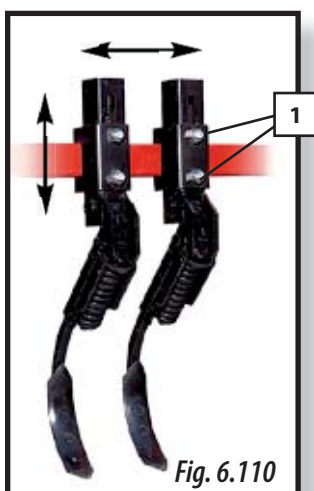

Fig. 6.110
- 1.** Loosen the fixing nuts (1, Fig. 6.110).
- 3.** Tighten the nuts to fix the position of the track eraser (1, Fig. 6.110).
ADJUST THE TRACK ERASERS HORIZONTALLY SO THAT THEY COINCIDE WITH THE TRACTOR'S WHEELS. ADJUST THE TRACK ERASERS VERTICALLY SO THAT THEIR WORKING DEPTH IS ENOUGH TO ERASE THE TRACTOR'S TRACKS (FIG. 6.110).